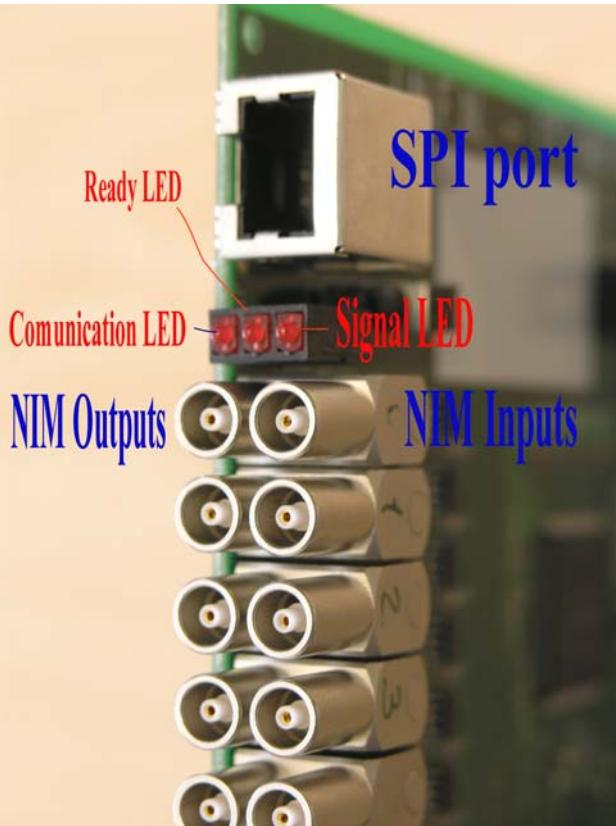

Figure 5: Front Panel Top
2.1.a: SPI Port (figure 5)
2.1.b: Communication LED (figure 5)
2.1.c: Ready LED (figure 5)
2.1.d: Signal LED (figure 5)
2.1.e: NIM Inputs (figure 5 and 6)
2.1.f: NIM Outputs (figure 5 and 6)